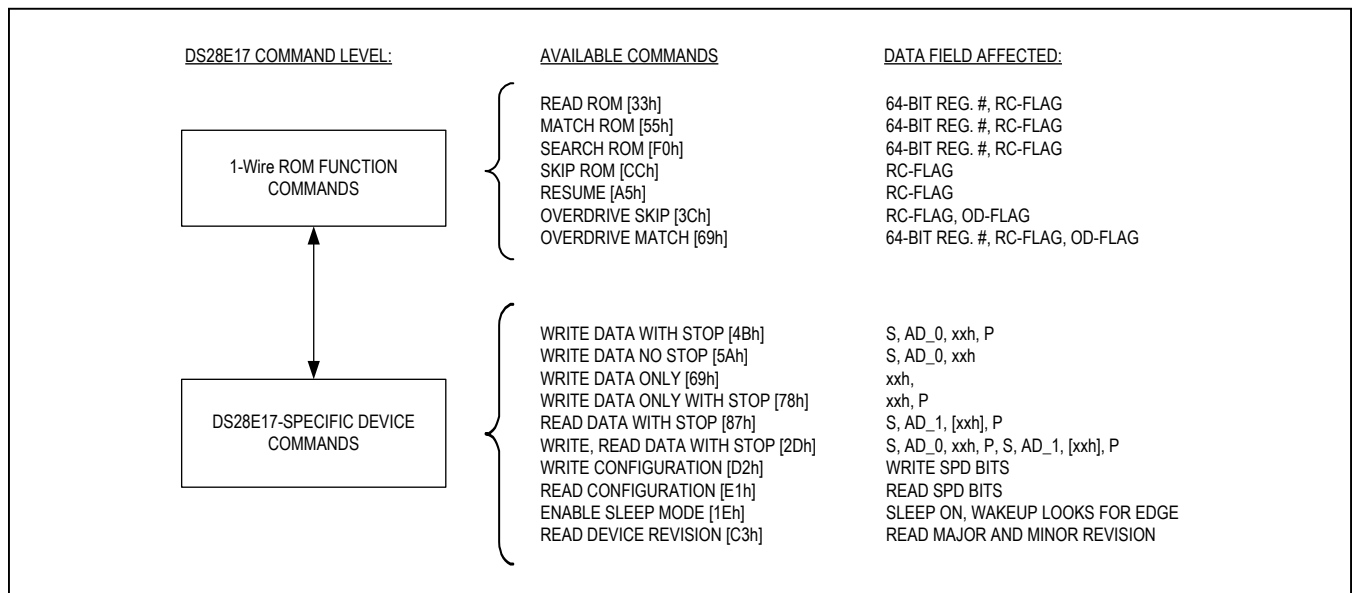

Figure 1. Hierarchical Structure for 1-Wire Protocol
**Figure 1** shows the hierarchical structure of the 1-Wire protocol. The bus controller must first provide one of the seven ROM function commands: Read ROM, Match ROM, Search ROM, Skip ROM, Resume, Overdrive-Skip ROM, or Overdrive-Match ROM. Upon completion of an Overdrive-Skip ROM or Overdrive-Match ROM command byte executed at standard speed, the device enters overdrive mode where all subsequent communication occurs at a higher speed. **All data is read and written least significant bit first.**